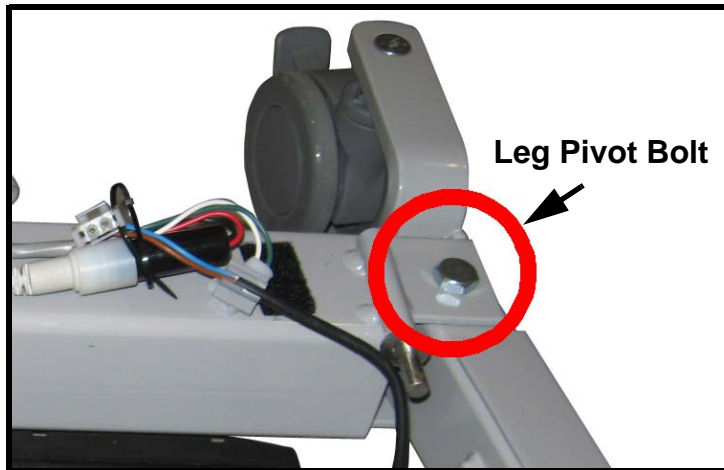

Fig. 18
- 3) Unscrew the leg pivot bolt and remove leg (see Fig. 18). Dispose of the nylon nut.